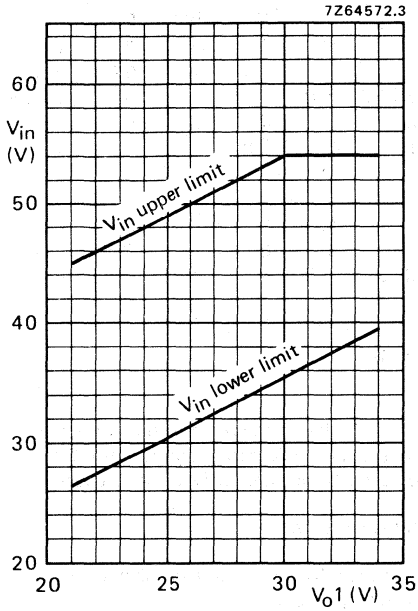

Fig. 4 Range of values for V_{O1} .
1. The V_{in} range depends on the value of V_{O1} (see Fig. 4).